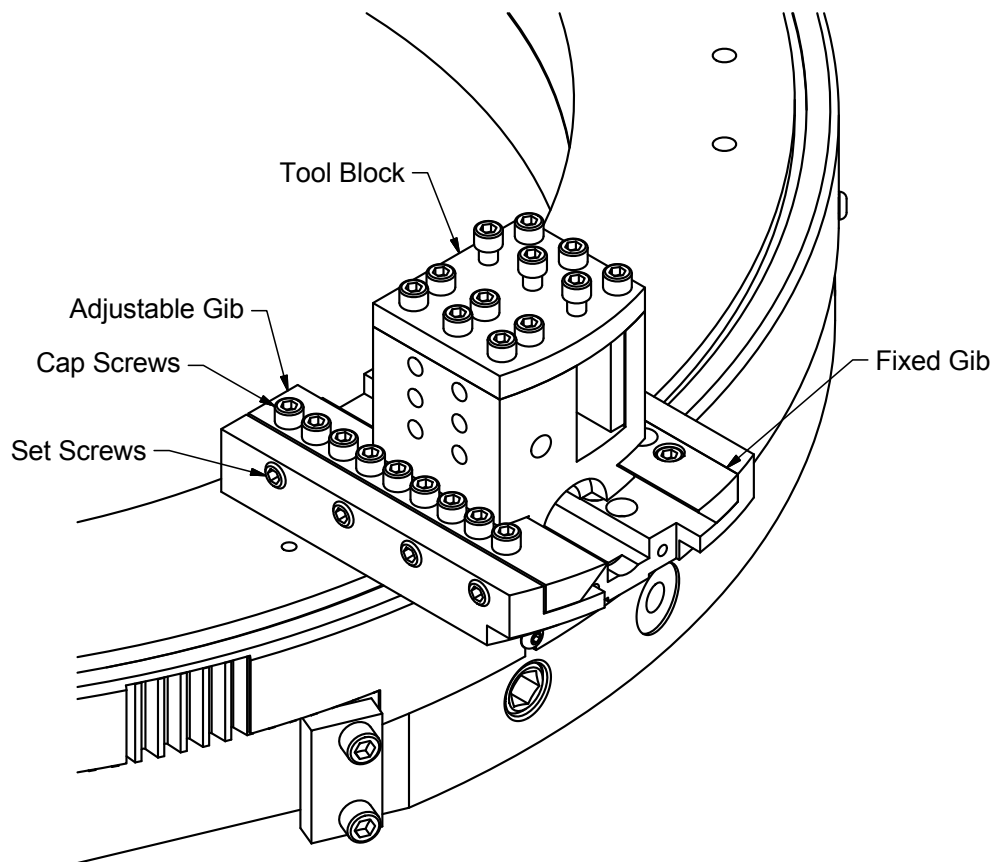

Figure 3-2 - Adjust Gibs
2. Install shims into the tool block to simulate a tool bit. Tighten the tool bit retaining screws. Replace the tool block only (without feed screw assembly) into the slide. Tighten the set screws on the side of the slide 1/4 turn. Loosen the cap screws on top of the adjustable gib if necessary. Move the tool block in the slide. There should be no slop and no binding. Continue to adjust set screws as necessary so that the tool block slides smoothly. The tool block must move easily with slight resistance, with no slop or binding. Resistance must be the same along the entire length of the slide. It may be necessary to move the tool block by tapping with a deadblow hammer (included in the hand tool kit). Adjust set screws as necessary. Tighten the cap screws on top of the adjustable gib. See Figure 3-2.